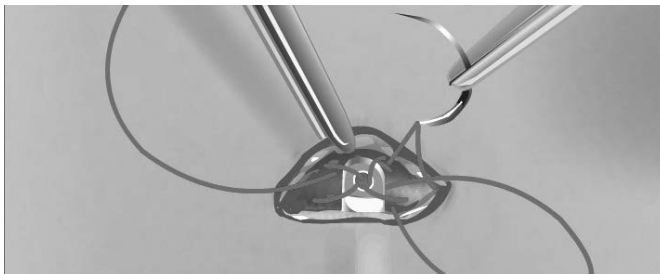

Figure 15: Anchoring the distal tip of the subcutaneous electrode
12. At the superior incision, secure the anchoring hole to the fascia using the pre-placed sutures from step 6 (Figure 15).